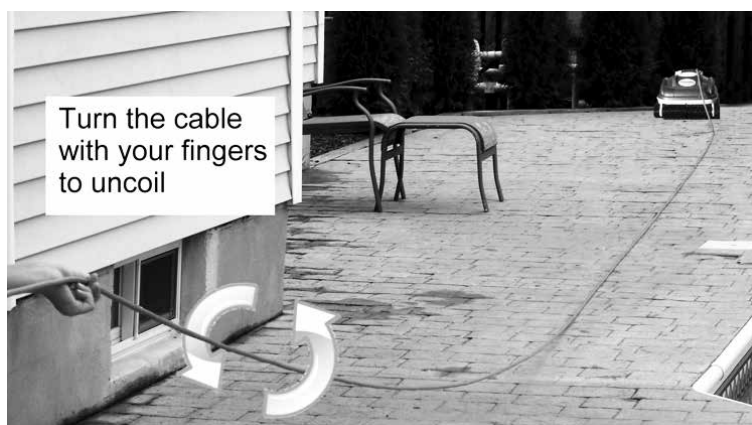

Figure 11
- Remove the cleaner from the pool and place it on the far end of the pool/yard area as shown in Fig 11.